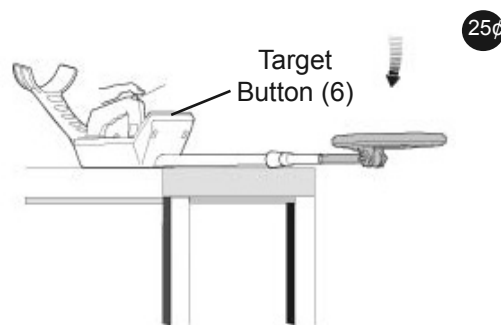

Figure 10
9. Press the red TARGET Button (6) on the panel. Set the silver quarter about five inches from the center of the Search Coil. The unit will make a continuous long tone and the meter will swing to the right. See Figure 10.